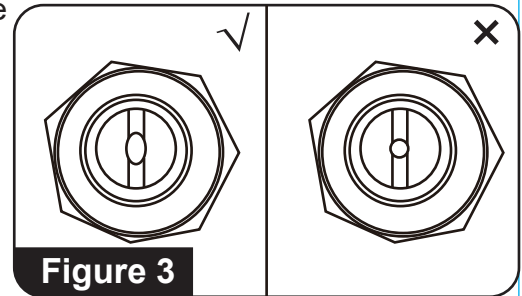

Figure 3
4. Inspect for Clogs: Hold the nozzle up to a light. Look through the back—you should see an oval ("football") opening. If you only see a circle, it's still clogged. (See Figure 3)